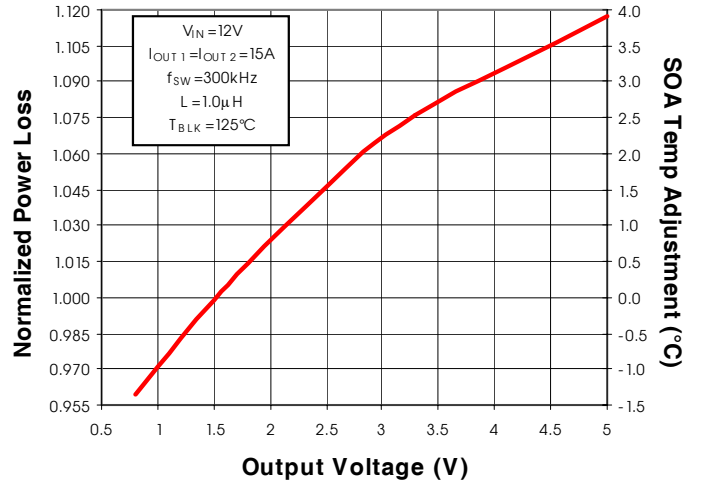

Fig. 5: Normalized Power Loss vs. V_{OUT}
(Fig. 5) Normalized power loss for output voltage ≈ 0.98
- (Fig. 5) Normalized power loss for output voltage ≈ 1.075
- (Fig. 5) Normalized SOA Temperature for output voltage $\approx -0.6^{\circ}C$
- (Fig. 5) Normalized SOA Temperature for output voltage $\approx 3.9^{\circ}C$